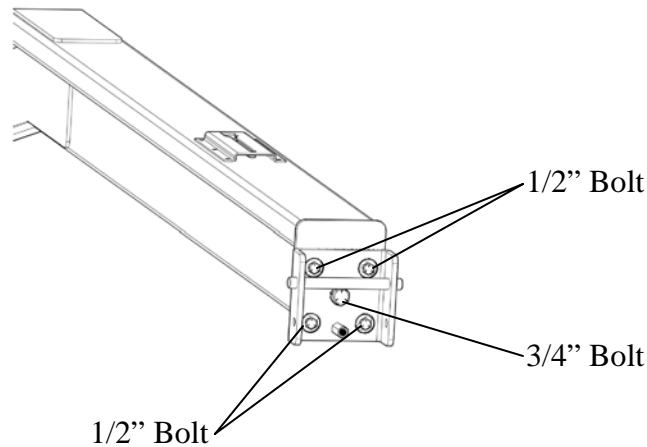

Figure 10
30. To level the backboard in the horizontal plane, loosen the four 1/2" bolts and the one 3/4" bolt in the center of the Quick Change Bracket attached to the boom. Refer to figure 10. Level the board and tighten all bolts securely.